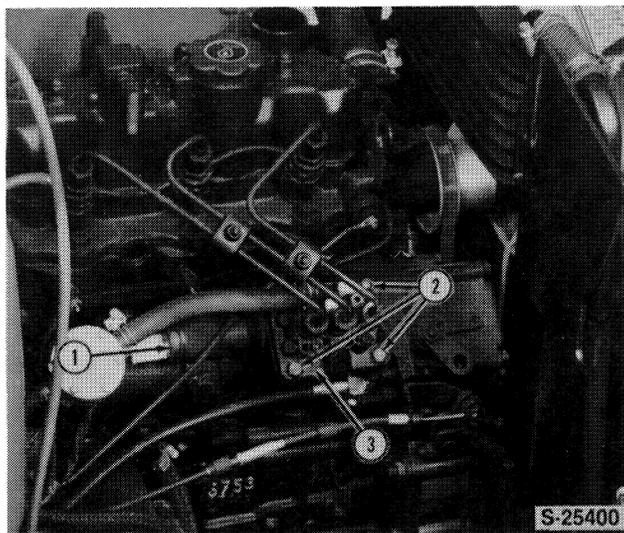
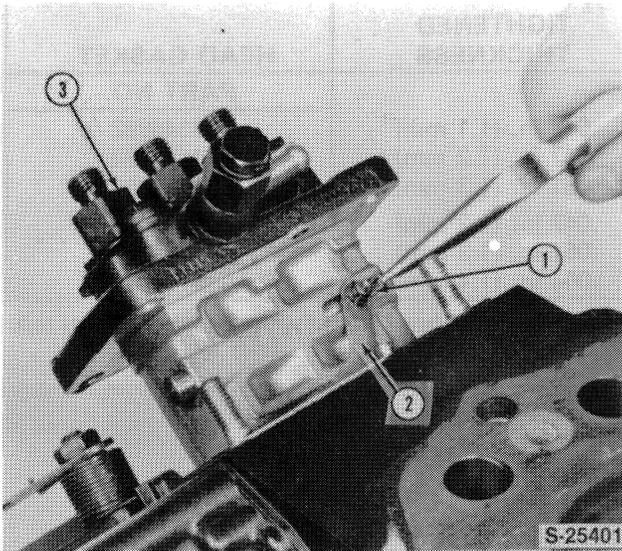

Figure 35
Figure 36
2. Remove the engine stop solenoid, Figure 35.
3. Remove the bolts and nuts (2) from the injection pump (3), Figure 35 and raise it up high enough to remove the snap pin (1), Figure 36. Disconnect the governor link (2) and remove the pump, Figure 36.